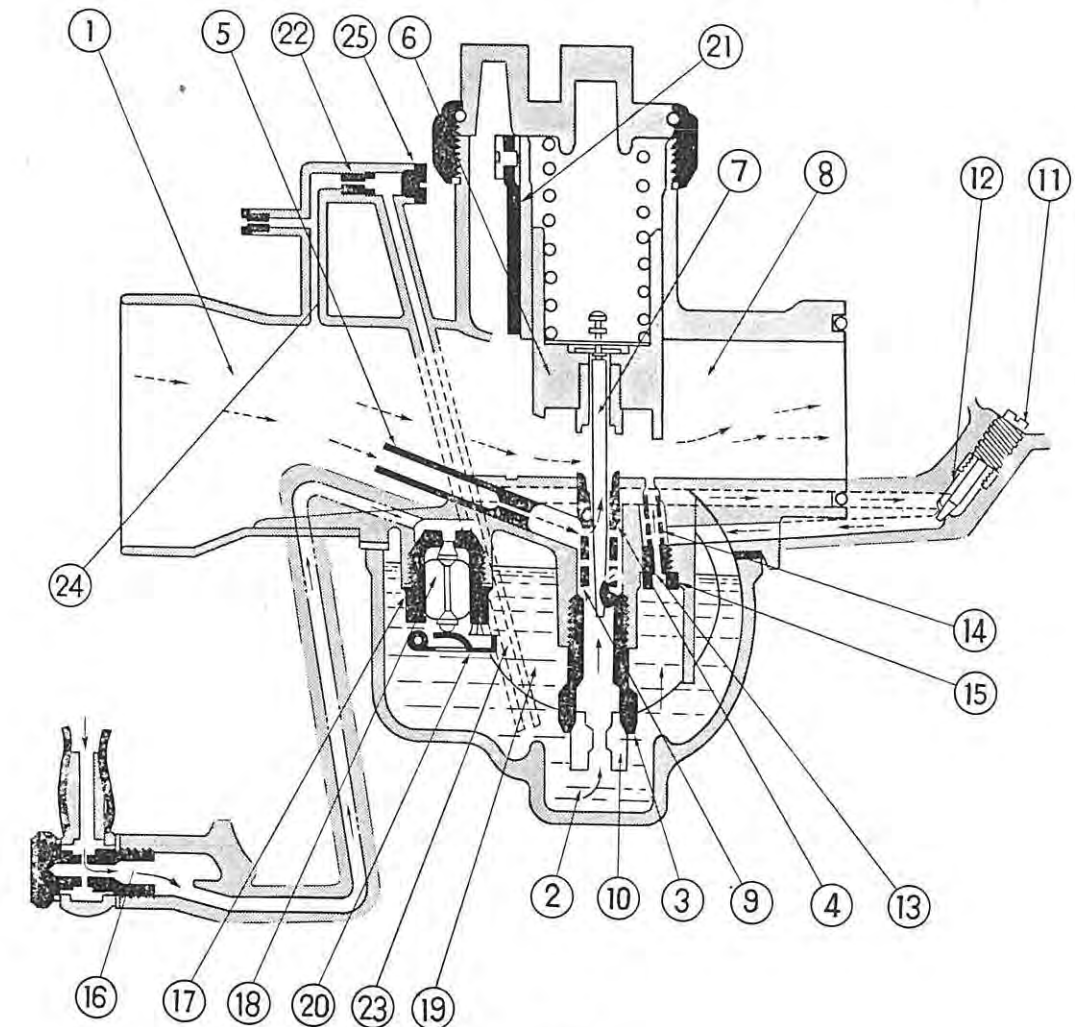

Fig. 5-2.
- (1) Air from the air cleaner passes through the suction port (1), lower side of the throttle valve (6), main bore (8) and into the cylinders.
This air stream produces a partial vacuum in the area around the power nozzle (24), by which fuel in the float chamber (2) flows through power jet fuel pipe (23), power jet (22) to the power nozzle (24). At this area, fuel is mixed with air introduced through the power air jet (21). Then they are mixed with air flowing from the suction port, vaporized and drawn into the cylinder (Fig. 5-2).
- (2) Main Fuel system.
Air from the air cleaner passes through the suction port (1), lower side of the throttle valve (6) main bore (8) and into the cylinders. This air stream produces a partial vacuum in the area around the needle jet (4), by which fuel in the float chamber (2) flows through the main jet (10) into the needle jet holder (3). As this area, fuel is mixed with air (bleed air) introduced through the air jet (5) and the holes (9) provided around the needle jet holder (3). Then fuel and air travel the gap between the needle jet (4) and the jet needle (7), and discharge to the lower side of the throttle valve. Then they are mixed with air flowing from the suction port, vaporized and drawn into the cylinder (Fig. 5-2).
- (3) Slow speed fuel system (pilot system).
Air from the suction port (1) passes through the outside (12) of the air screw (11) which regulates the rate of air flow. Then air passes through the bleed holes (14) of the slow speed jet (13) to the slow speed jet (13) where introduced into fuel stream from the orifice (15) provided with the bottom of the slow speed jet (13). The rich mixture produced at this area discharges to the lower side of the throttle valve and is mixed with air flowing from the suction port (1) and drawn into the cylinder. The minor mixture adjustment is made by means of the air screw (11). Turn the air screw to the right to enrich the mixture and to the left to lean the mixture. The major mixture adjustment is made by replacing the slow speed jet (13). Replace the jet with one carrying bigger number to enrich the mixture and with one carrying smaller number to lean the mixture (Fig. 5-2).
- (4) Float chamber
(2) through the passage (16), the valve seat (17) and valve (18). As fuel enters the float chamber, the float (19) will raise and move the valve (18) upperward by means of the float arm (20). When the valve touches the valve seat, flow of fuel will be restricted. As fuel level drops, the float lowers, opening the valve to allow fuel to enter the float chamber. Thus, any change in the fuel level causes a corresponding movement of the float, opening or closing the valve to maintain the fuel level constant. There is a spring installed, against vibration, between the needle valve and its body at the location where the valve contracts the float arm (20). (Fig. 5-2).
- (5) Choke system
The choke valve (21) must be in a closed position with the choke lever moved upwards, and in a open position with the choke lever moved downward, as shown in Fig. 5-2.